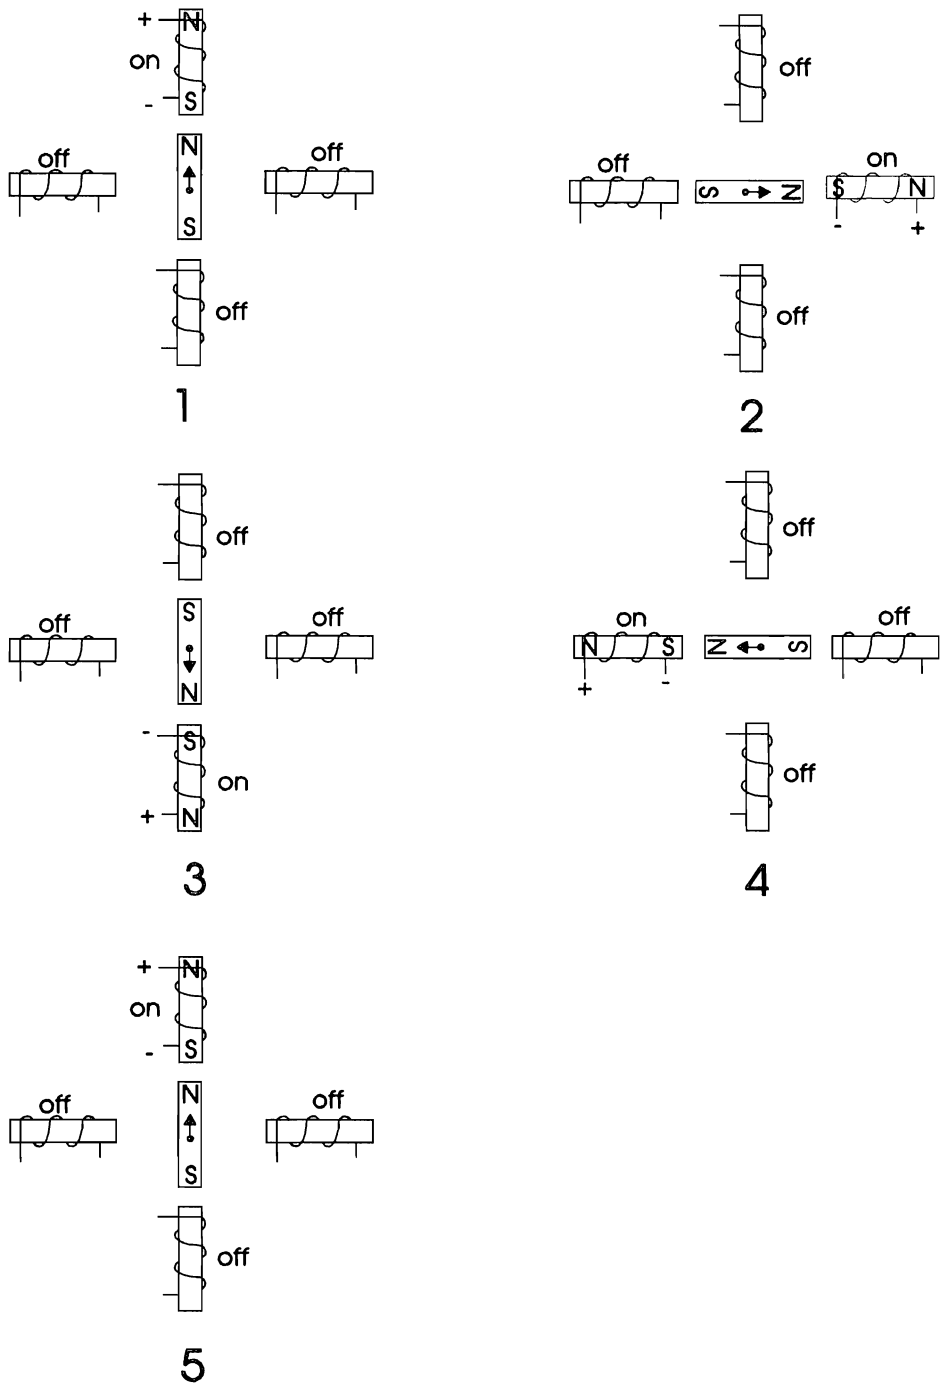
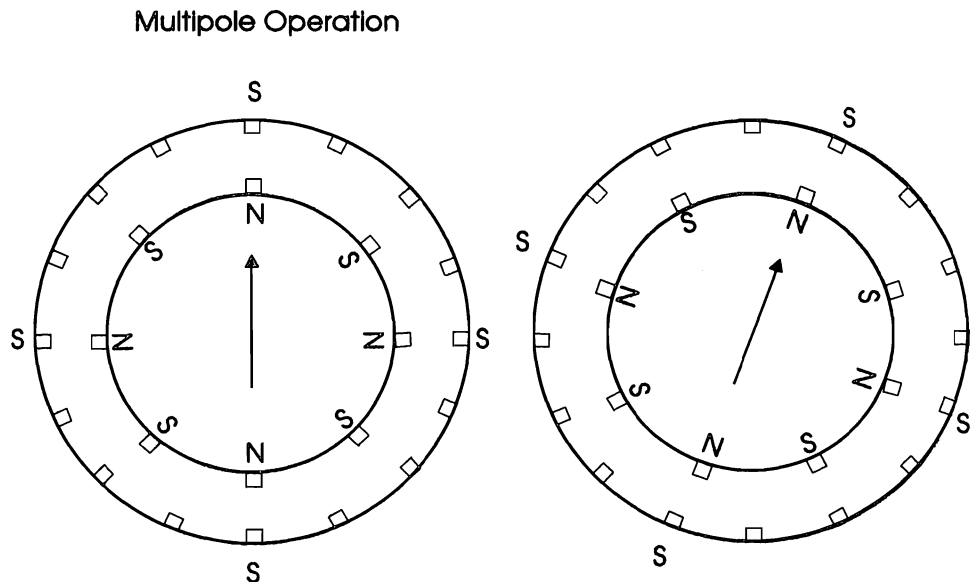

Figure 12.1 Stepper motor going through one rotation.
Figure 12.3 High-resolution stepper motor.
rotor. The electromagnets or windings are located on the stationary portion of the motor, called the *stator*. Figure 12.1 illustrates a stepper motor stepping through one complete rotation. The stator, or stationary portion of the motor, surrounds the rotor.
In Fig. 12.1, position 1, we start with the rotor facing the upper electromagnet, which is turned on. To move the rotor in a clockwise (CW) rotation, the upper electromagnet is switched off and the electromagnet to the right is switched on. This causes the rotor to rotate 90° CW to align itself with the electromagnet, shown in position 2. Continuing in the same manner, the rotor is stepped through a full rotation until we end up in the same position as we started, shown in position 5.
The amount of rotation per pulse is the *resolution* of the stepper motor. In the example illustrated in Fig. 12.1, the rotor turned 90° per pulse—not a very practical motor. A practical stepper motor has a greater resolution (smaller steps); for instance, it may rotate its shaft 1° per pulse (or step). Such a motor requires 360 pulses (or steps) to complete one revolution.
The stepper motor illustrated in Figs. 12.1 and 12.2 rotated 90° per step. Real-world stepper motors employ a series of mini-poles on the stator and rotor. The mini-poles reduce the number of degrees per step and improve the resolution of the stepper motor. Although the drawing in Fig. 12.3 appears more complex, the operation of the motor is identical to that of the motors shown in Figs. 12.1 and 12.2.
The rotor in Fig. 12.3 is turning in a CW rotation. In position I, the north pole of the permanent magnet on the rotor is aligned with the south pole of the electromagnet on the stator. Notice that there are multiple positions that are all lined up. In position II, the electromagnet is switched off and the coil to its immediate left is switched on. This causes the rotor to rotate CW by a precise amount. It continues in this same manner for each step. After eight steps, the sequence of electric pulses starts to repeat.